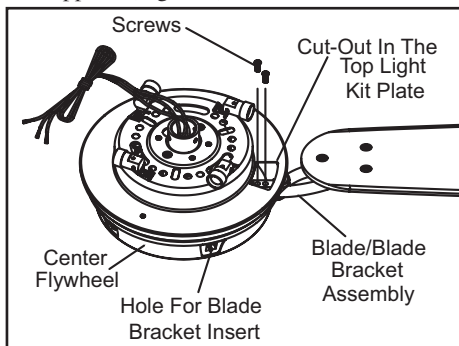

Figure 6
3. Rotate the center flywheel until the blade bracket screw holes in the center flywheel are visible from the cut-out in the top light kit plate (Figure 6).
the center flywheel and secure with screws supplied (Figure 6).